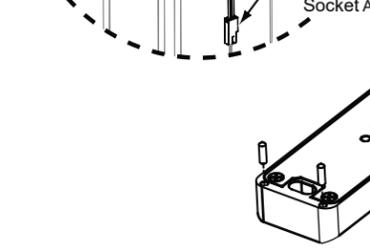

Figure 6
8. Utilizing the anchor pin system, use a #30 bit, drill the two (2) necessary pin holes and 4 optional if you wish - see Figure 6.
12. Two (2) middle anchoring pins must be used to install the 4801. Four (4) top and bottom anchor pins are optional. Insert them into the four holes on the back side of the 4801. See Figure 6. If you also intend to use the 1/8" thick spacer plate, you can now slip the plate over the pins.